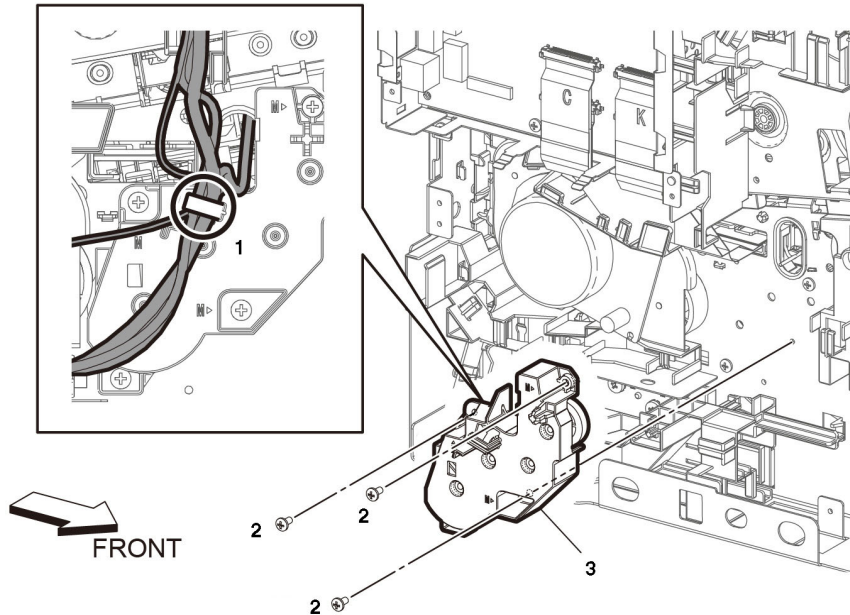

Figure 1 Main 3 drive assembly removal
6. Remove three screws (1), then remove the waste drive assembly (2), Figure 1.